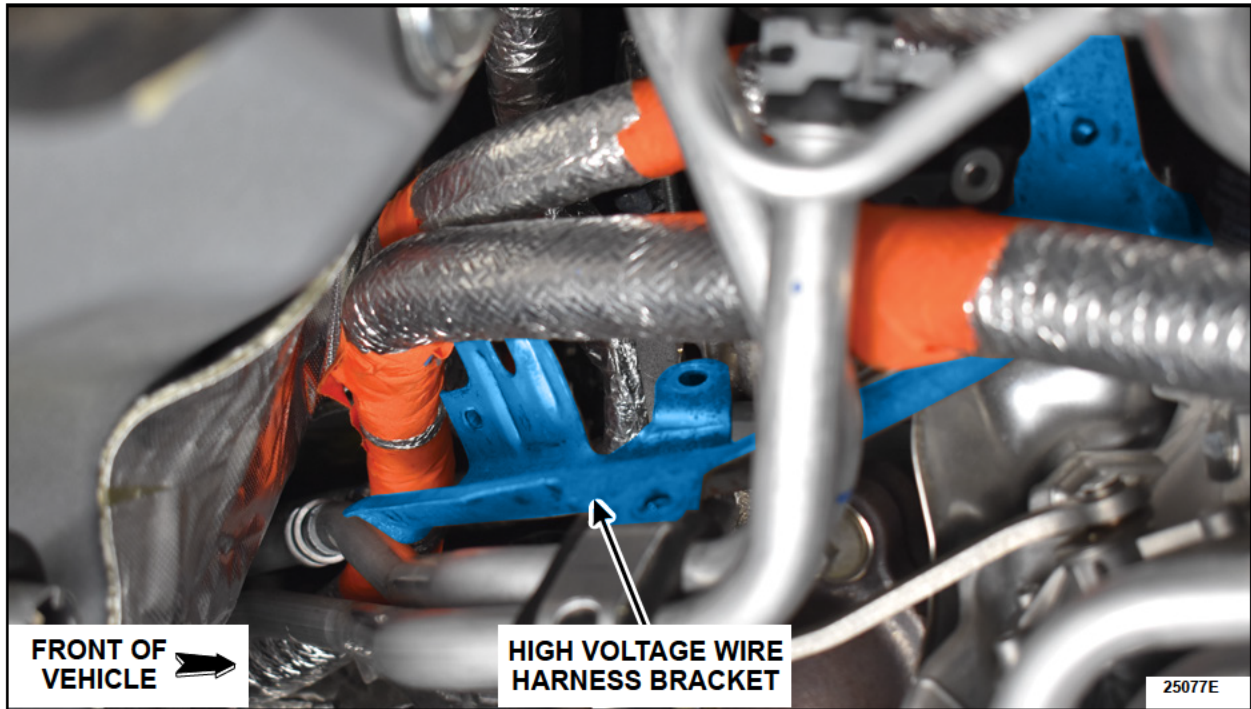

FIGURE 5
14. Remove the high voltage wire harness bracket. See Figure 5.